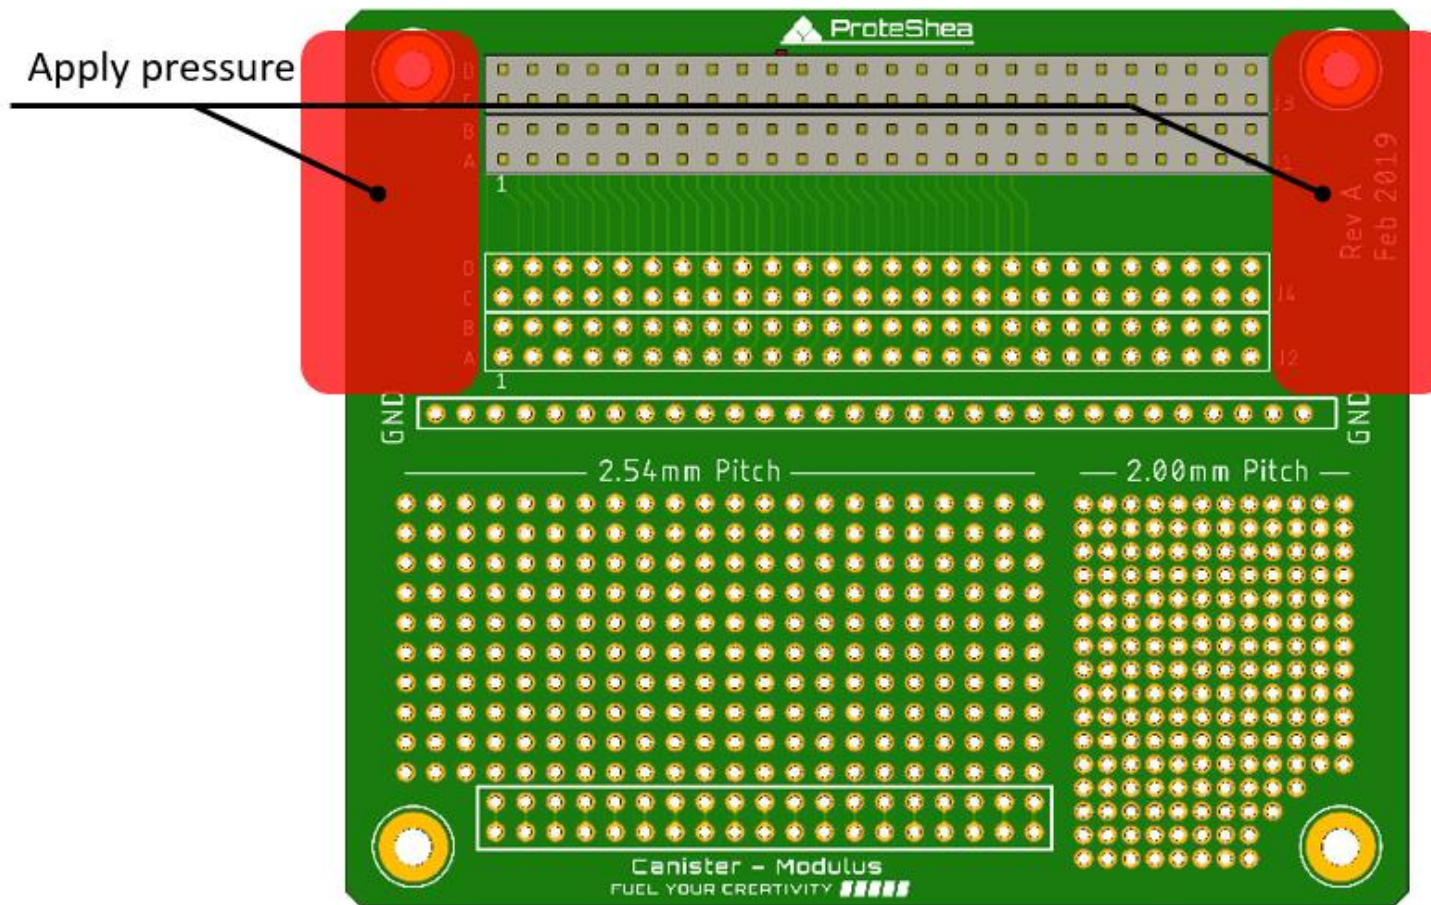

Figure 9. Areas to Apply Pressure for Installation or Removal.
4. Use two hands and apply even pressure on both sides of the Canister (areas marked in red in Fig. 9) to press into Main Interface board or another Canister board.
2. Use two hands and apply even pressure on both sides of the Canister (areas marked in red in Fig. 9) to pull the board vertically out of the Main Interface board.